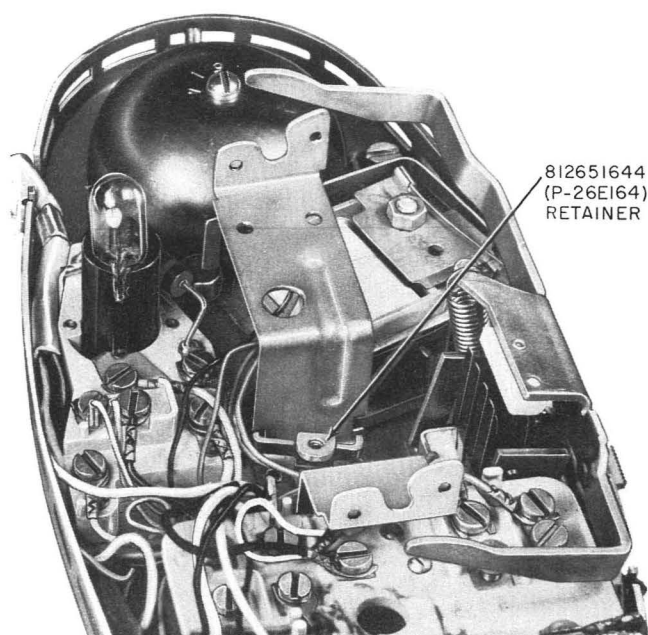

Fig. 7—Installing The 812651644 (P-26E164) Terminal Board Retainer in PRINCESS Telephone Set
- (1) Remove housing; loosen dial mounting screws and move the dial to one side without disconnecting the dial leads.
- (2) Insert the 812651644 (P-26E164) retainer in left-hand dial mounting bracket (Fig. 7).